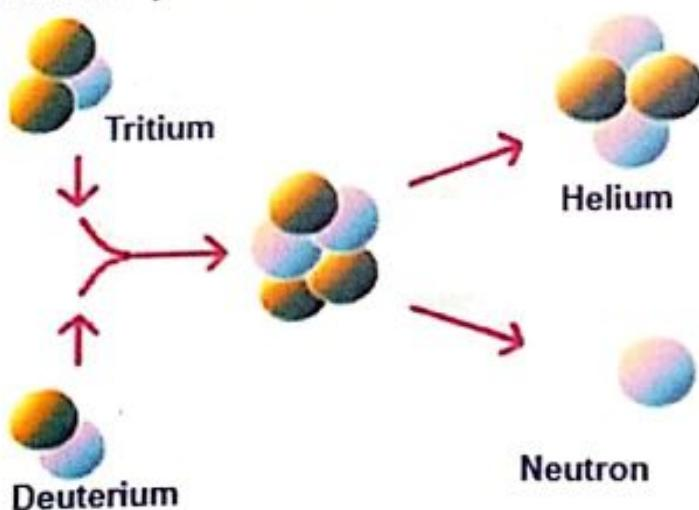

Fig. 6.2.nuclear fusion of deuterium and tritium (isotopes of hydrogen)
- Internet or chemistry textbooks • Figure 6.2
2. Study the support tool shown in Fig. 6.2 carefully.